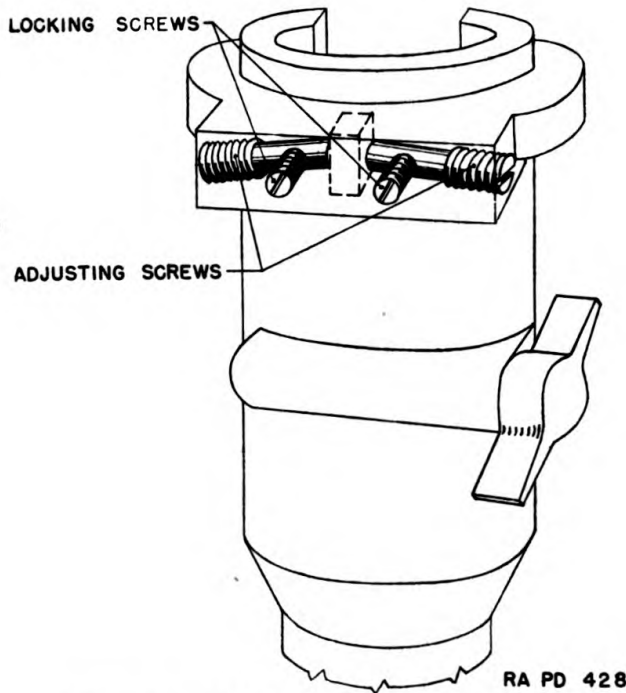

FIGURE 19.—Adjustment of telescope socket.
- b. Loosen the two locking screws (fig. 19).